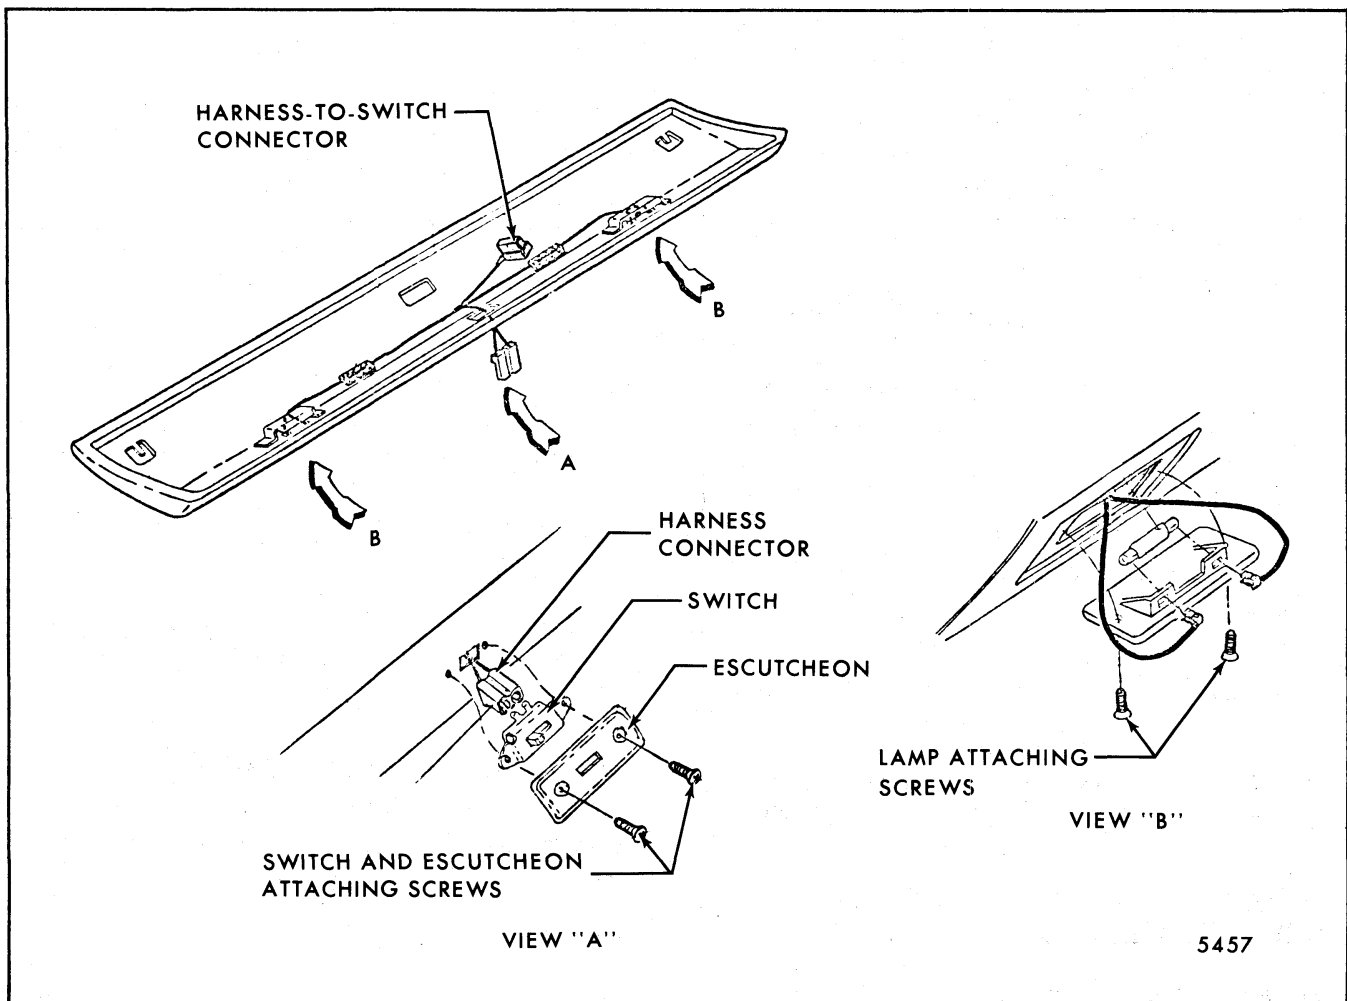
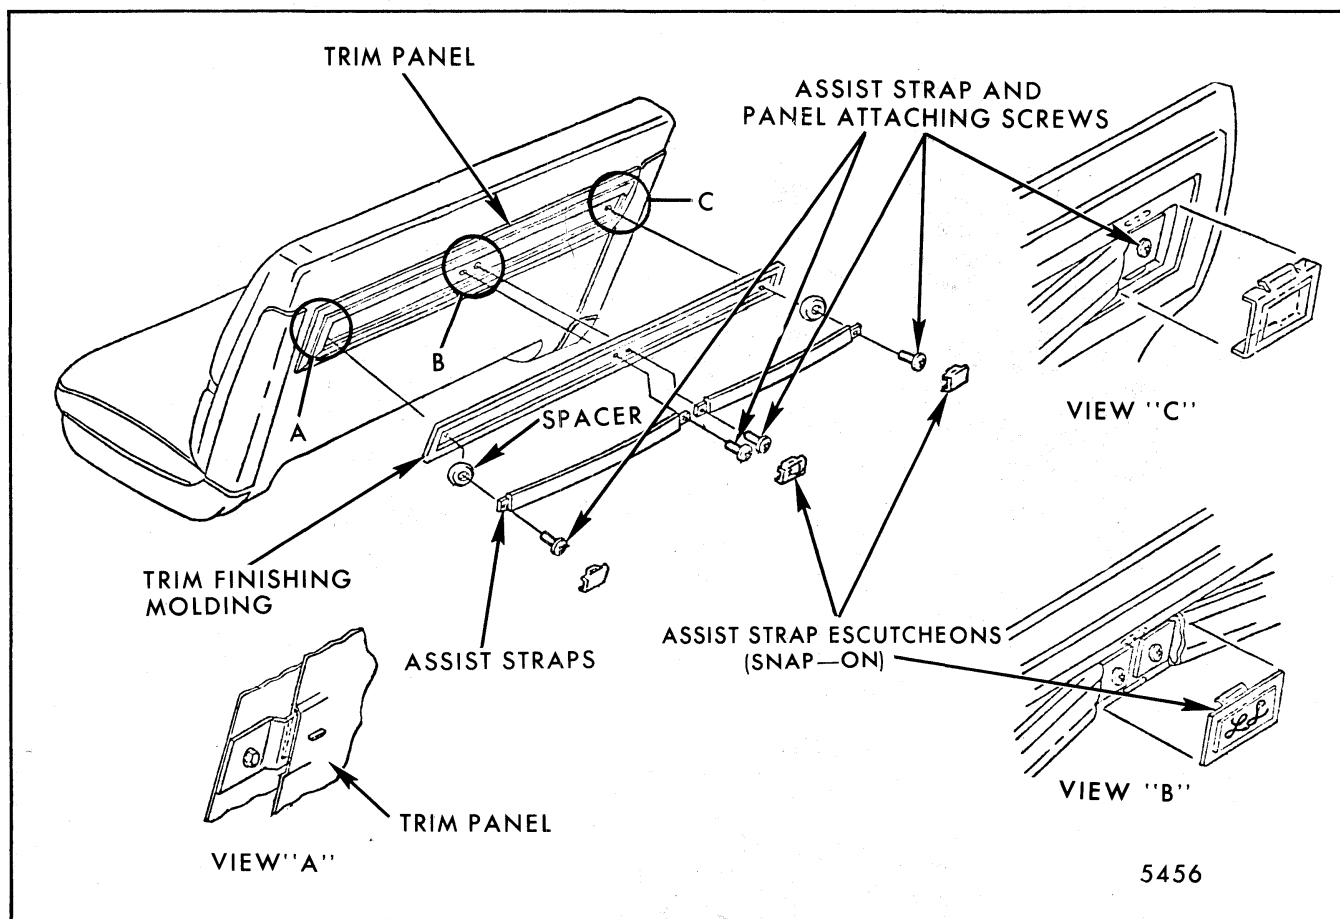

Fig. 9-33-Front Seat Back Courtesy Lamps and Lamp Switch - Oldsmobile Luxury Sedan
Fig. 9-34-Front Seat Back Assist Straps and Panel Assembly - Oldsmobile Luxury Sedan
- Disconnect lamp or switch wires (see Fig. 9-33) and remove lamp or switch.
1. At the center and outer ends of the assist straps, carefully pry (snap) off assist strap escutcheons (Fig. 9-34, Views "A" and "B").
2. Remove assist strap and panel attaching screws (Fig. 9-34) and remove assist straps. Lift panel assembly upward to disengage from hanger supports at outer ends of panel (see Fig. 9-34, View "C"); then disconnect clock and courtesy lamp switch wire harness connector (see Fig. 9-33) and remove panel assembly from seat back.